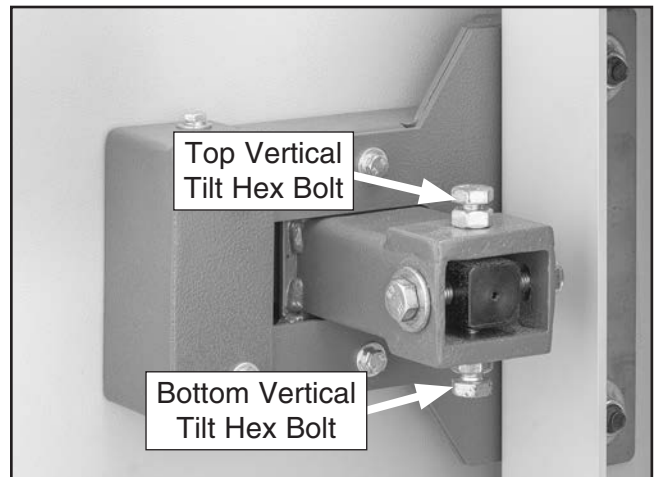

Figure 79. Location of vertical tilt hex bolts.
5. Adjust vertical tilt hex bolts (see **Figure 79**) so that wheel is perpendicular to ground. When making adjustments, loosen one bolt then tighten opposite bolt equally. Make adjustments in small increments.